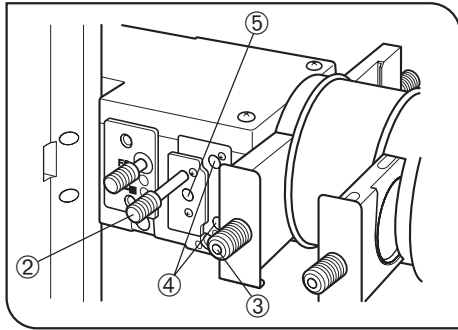

Fig. 7
4. Push in the slit selector lever ② (IN position) and set the wedge prism slider ③ to the intermediate click position to engage the slit and wedge prism in the light path. (Fig. 7)
5. Using the Allen wrench (width across flats 3 mm), turn the two centering screws ④ alternately so that a crescent slit is visible on the target. Adjust so that the slit is located as close as possible to the perimeter of the target.
6. If the slit is not sharply visible, adjust the focus adjustment screw ⑤ using the Allen wrench (width across flats 3 mm).